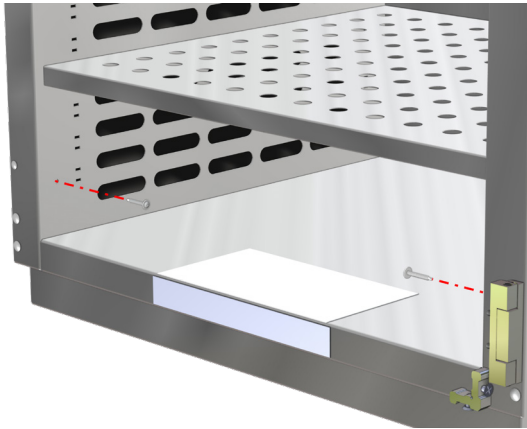
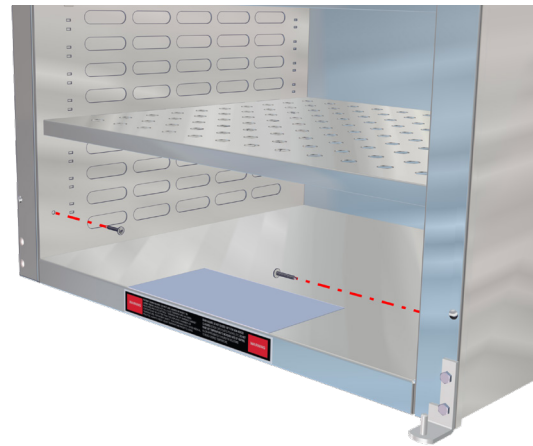

Fig. 30: Remove Interior Cabinet Screws - Glass Door Unit
Fig. 31: Remove Interior Cabinet Screws - Steel Door Unit
2. Remove the two screws located inside the cabinet (one on each side) near the bottom (Fig. 30 - Fig. 31. Door removed for clarity in these illustrations).